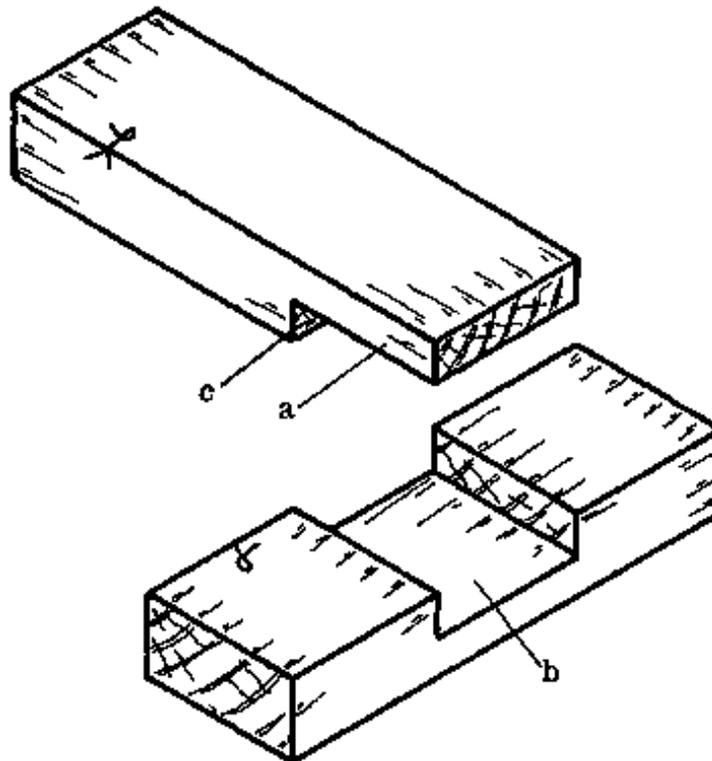

Fig. 1
**The tee-halved joint consists of a pin (a) on the end of one piece which fits into a socket (b) in the other piece (Fig. 1).**
The pin is half the thickness of the timber, and the depth of the socket equals the thickness of the pin. The shoulder of the pin (c) fits against the face edge of the socket (Fig. 1).